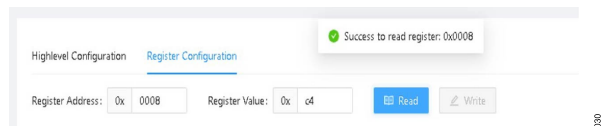
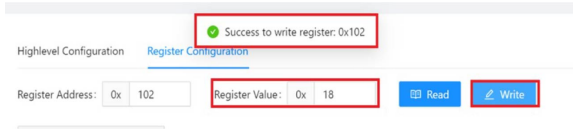

Figure 30. Reading Individual Register
Figure 31. Writing Individual Register
5. To read or write to an individual register, click to the **Register Configuration** tab. To check a register, enter the address in the Register Address field and click **Read** (see Figure 30). To change a register, enter the value in the **Register Value** field and click **Write** (see Figure 31). See the **ADPD7000** data sheet for the detailed values of the registers.